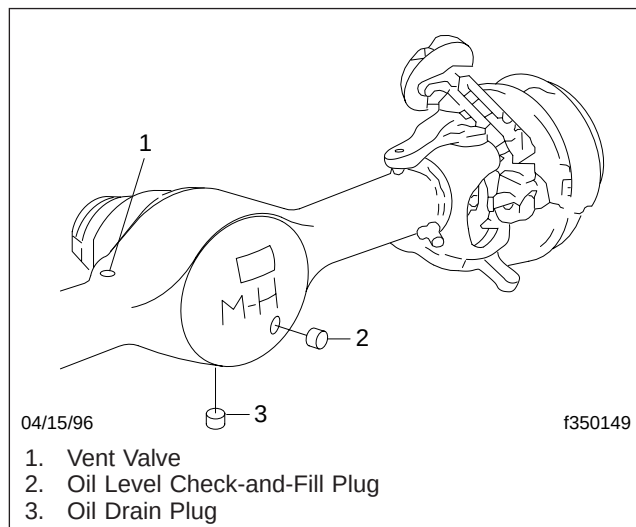

Fig. 3, All-Wheel-Drive Front Axle Differential
1. On all front-wheel-drive vehicles, check the oil level in the differential. See Fig. 3.